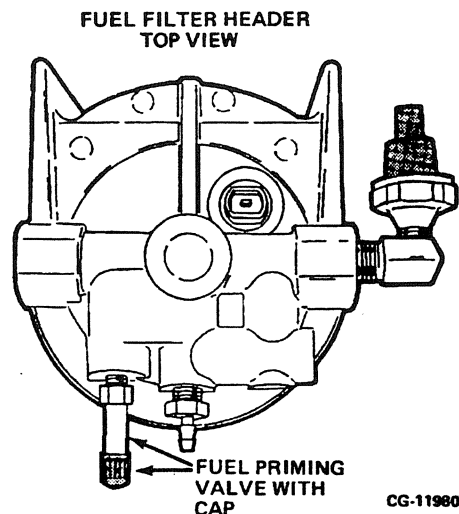

Figure 9.15. Fuel Priming Valve Location
**PROCEDURE:** (Refer to Figure 9.15)